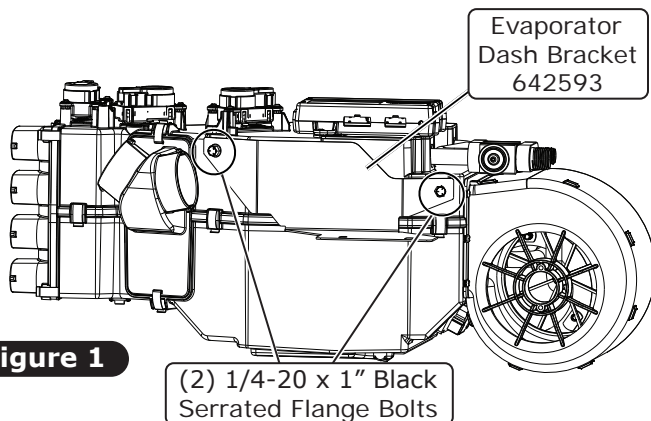

Figure 1
8. Align the (2) remaining holes in the rubber boot and evaporator firewall hose bracket with the holes in the firewall and install (2) 1/4-20 x 3/4 black serrated flange bolts. Once tightened, remove the full-threaded stud and replace with a 1/4-20 x 3/4 black serrated flange bolt (See Photo 7, below).
10. From the passenger compartment, attach the evaporator dash bracket to the evaporator using (2) 1/4-20 x 1" black serrated flange bolts (See Figure 1, below). The bracket flange should rest firmly against the OEM lower dash brace (See Photo 8, below).